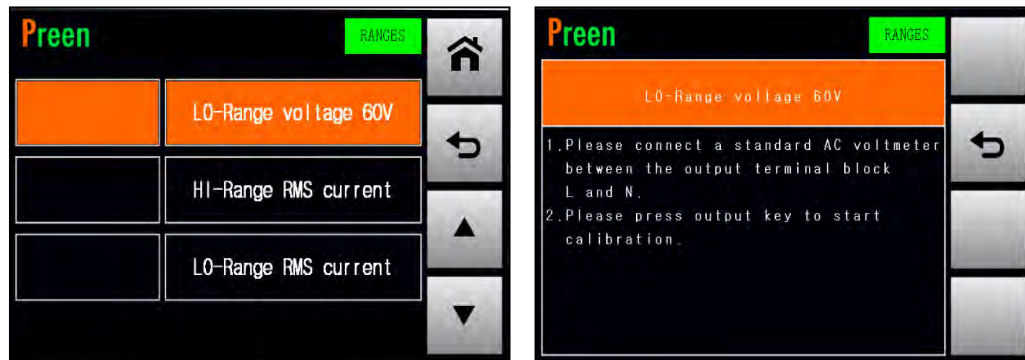

Figure 4.11 Enter into the page which calibrates the LO-Range voltage 60V
1. Press the item  repeatedly to enter into the page which calibrates the LO-Range voltage 60V (refer to Figure 4.11).